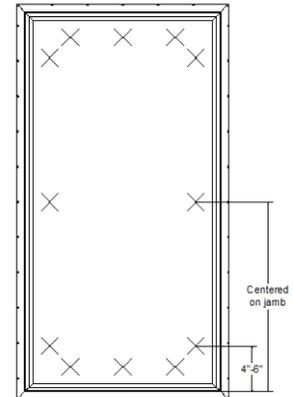
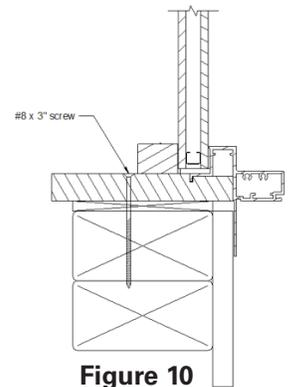

Figure 9
Figure 10
- (Required)** For impact units larger than 49-3/8" wide and/or 76-9/16" tall, additional fasteners must be used for installation. Fasteners should be installed through the jambs in the locations indicated (**Figure 9**). Shim between the window jamb and rough opening at each location, and install one #8 x 3" screw as shown in the detail (**Figure 10**).